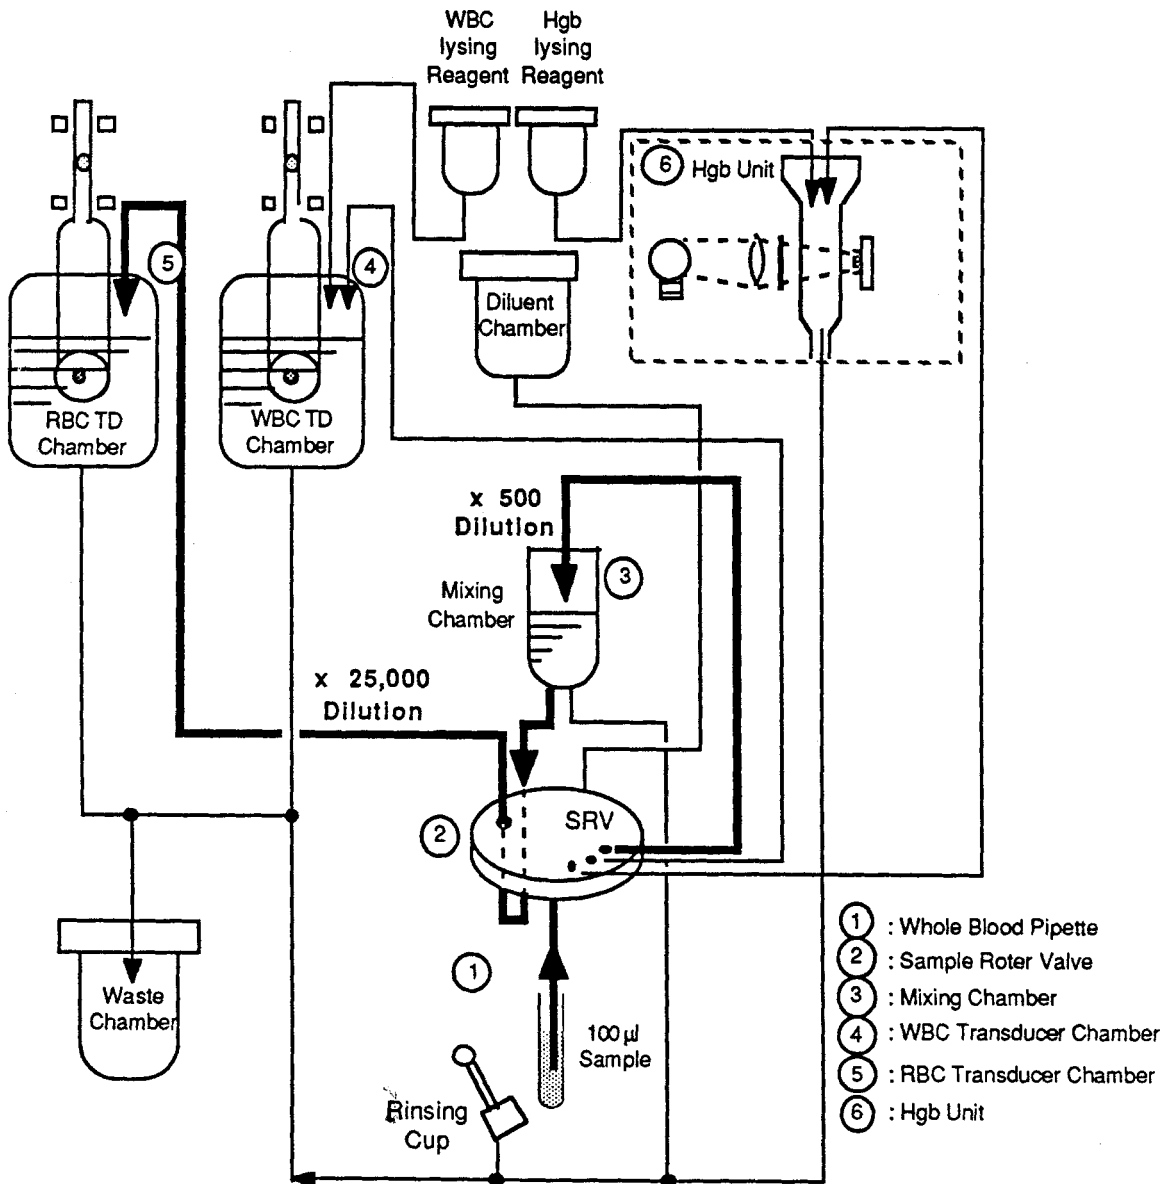

Figure 4-4 Sample Flow - RBC/PLT/Hct
The RBC sample flow chart is illustrated by the bold lines in Figure 4-4. The 4 μL of the whole blood sample, measured by the Sample Rotor Valve (2), is diluted into 1 : 500 by adding approximately 2 mL of diluent in the Mixing Chamber (3). The 1 : 500 diluted sample in the Mixing Chamber is aspirated into the Sample Rotor Valve again, and 40 μL of the 1 : 500 diluted sample is measured and diluted into 1 : 50 by adding approximately 2 mL of diluent in the RBC Transducer Chamber (5). The 0.25 mL of final dilution volume (final dilution ratio 1 : 25000) in the Transducer Chamber is aspirated through the aperture and counted. RBC and PLT are counted simultaneously by the electric resistance detection method. The Hct value is computed by the cumulative pulse height detection method.